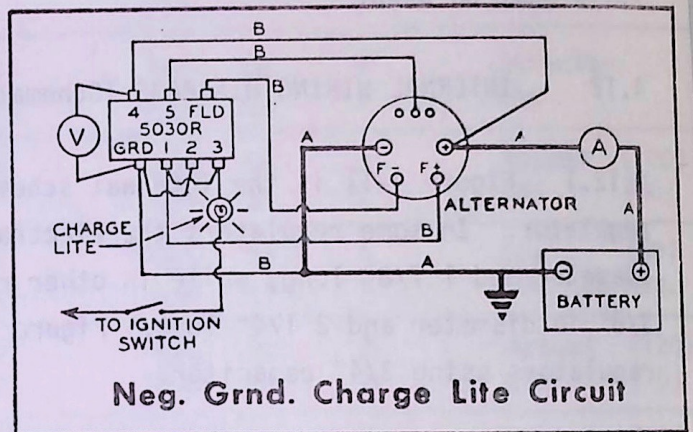

FIGURE 4-6. Neg. Grnd. Charge Lite Circuit.
4.5.1 If Figures 4-6 or 4-7 are used, use a 14 volt chargelight #1895 for the test block circuit.